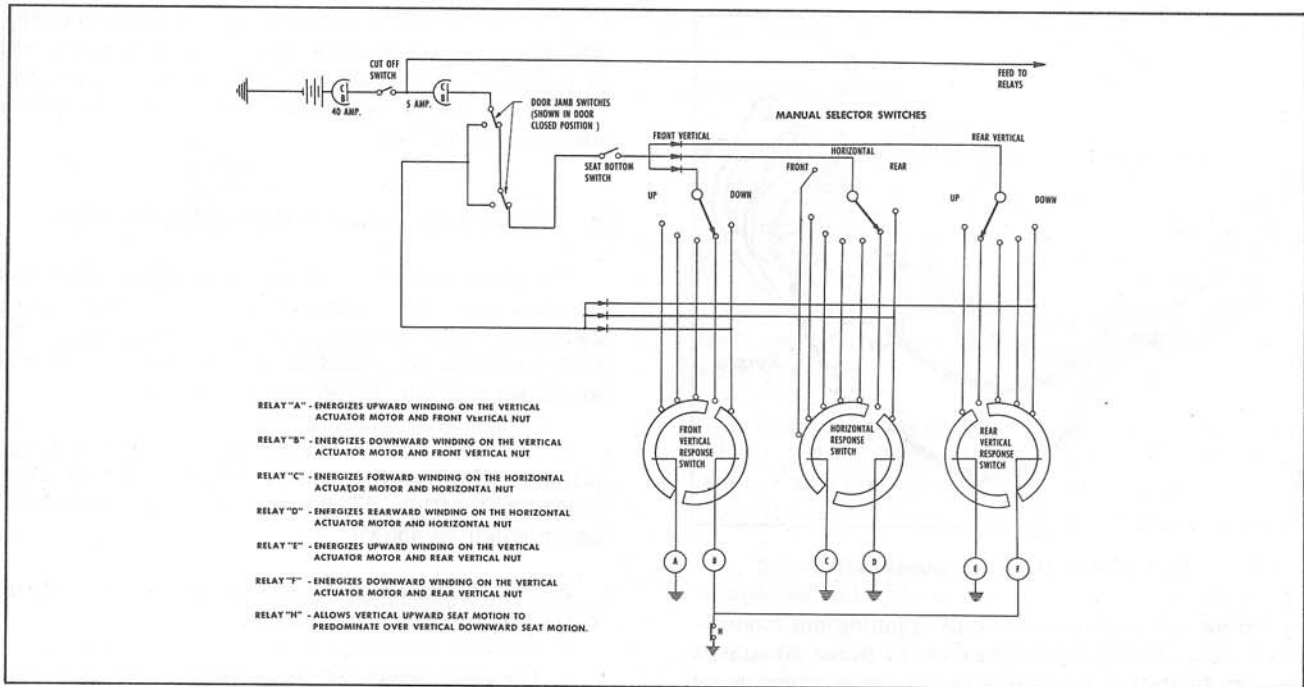
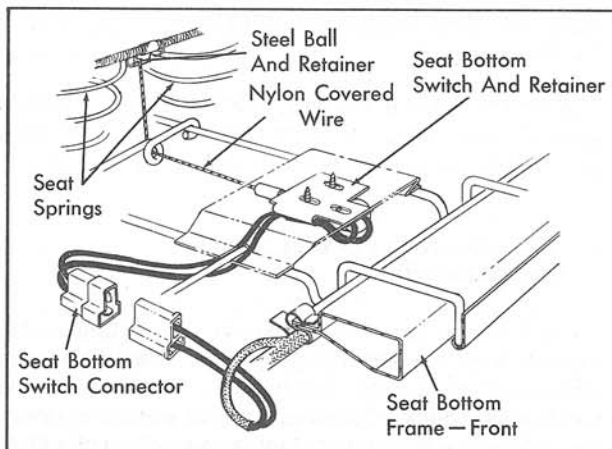
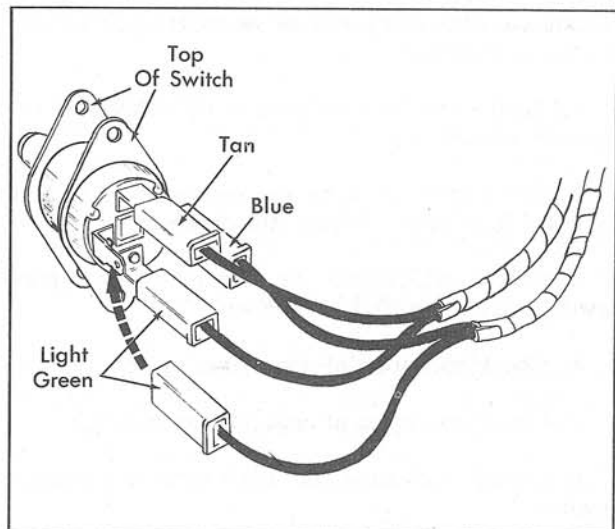

Fig. 17-84 Dial Selector Switch Circuit Diagram
Fig. 17-85 Seat Bottom Switch Installation
Fig. 17-86 Right Door Jamb Switch
switch and response switches in the relay control box is shown in Fig. 17-84.
3. Front Seat Bottom Switch - Controls circuit from power source to selector control switch. The complete system is inoperative when the doors are closed and this switch is open as shown in Fig. 17-84. The switch is located in the spring construction at the driver's side of the front seat cushions, Fig. 17-85. When the driver sits on the cushion, the switch is closed. When the driver is not sitting on the cushion, the switch is open.
4. Door Jamb Switches - Directs current from power source to dial selector control switch when doors are closed as shown in Fig. 17-84 and to the automatic circuit, when one or both of the doors are opened. The jamb switches, Fig. 17-86 and 17-87, are located at the front body hinge pillar, below the door jamb switches which actuate the lock relay box.
5. Seat Relay and Response Switch Control Box - The box consists of seven control relays and three response switches. The relays energize the actuator motors and spinning nut solenoid to operate the seat. However, these relays must first be energized by the current from one of the response switches. There is a response switch for each major movement of the seat assembly as shown in Fig. 17-84. Current flows from the dial control switch circuit or the automatic circuit, energizing the bars on the response switch, which in turn energize the control relays in the box. The response switch remains energized until the feed from the power source to the relay is broken by the gap in the switch bars. The response switches are rotated by connecting links which are attached to the seat adjuster torque tubes.
6. Dial Selector Control Switch - The control switch is installed on the left front door arm rest and is designed with three knobs, each of which energizes a particular response switch in the control box. As shown in Fig. 17-84, there are five contacts for adjustment of the front and rear vertical travel and seven contacts for adjustment of the horizontal travel. When the doors are closed, and the seat bottom switch is actuated (driver's seat is occupied) current flows to the three control knobs in the switch. From the control knobs, the current flows through one side of the response switch bar which energizes the affected relay.
When one of the front doors is opened, the current from the power source is directed from the selector control switch to the automatic circuit which simultaneously energizes the extreme down and rear adjustment circuits of the response switches, Fig. 17-84. The seat then operates to the extreme down and rear positions and automatically
3. Check attachment of wires at door jamb switch. Refer to Figs. 17-86 and 17-87.
The jamb switches which control the operation of the seat are located below the door jamb switches which control the lock relay box. The wires should be attached to the switch contacts as shown in Figs. 17-86 and 17-87.
1. Remove both switches from front body hinge pillar. Do not disconnect wiring. Check wire colors with Figs. 17-86 and 17-87. Wires should be attached as shown.
The seat bottom switch is designed with a nylon covered wire attached to one end of the switch. The other end of the cord is attached to a steel ball which is secured to a cross-wire in the seat construction, as shown in Fig. 17-85. When the driver sits on the seat cushion, the tension on the cord is released and the switch spring closes the switch contact, completing the circuit.
3. Check attachment of wires at door jamb switches. Refer to Figs. 17-86 and 17-87.